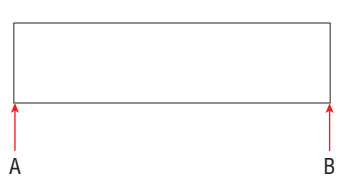

FIGURE 10.3 Specifying the ends of a fit baseline
7. Click points A and B in Figure 10.3. A blinking cursor appears.